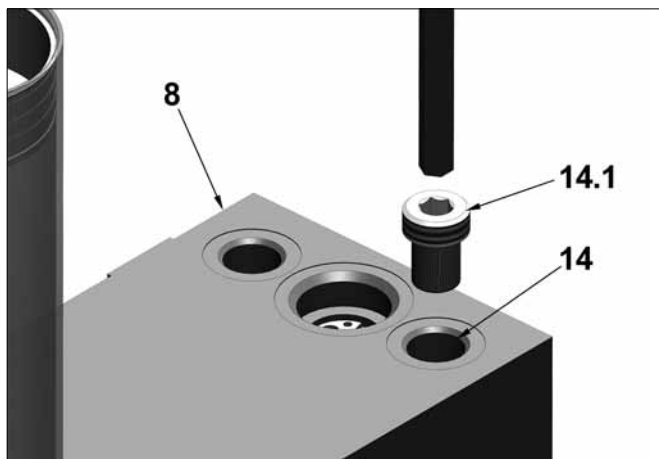

Fig. 4-11 Oil Strainer in the control housing
- Oil Strainer 14.1 (Fig. 4-11)
- Unscrew oil strainer 14.1 (Fig. 4-11) from control housing 8.
• Clogged oil strainer	➔ Fully relieve pressure of hydraulic system on carrier unit. ➔ Clean oil strainer (see Fig. 4-11).